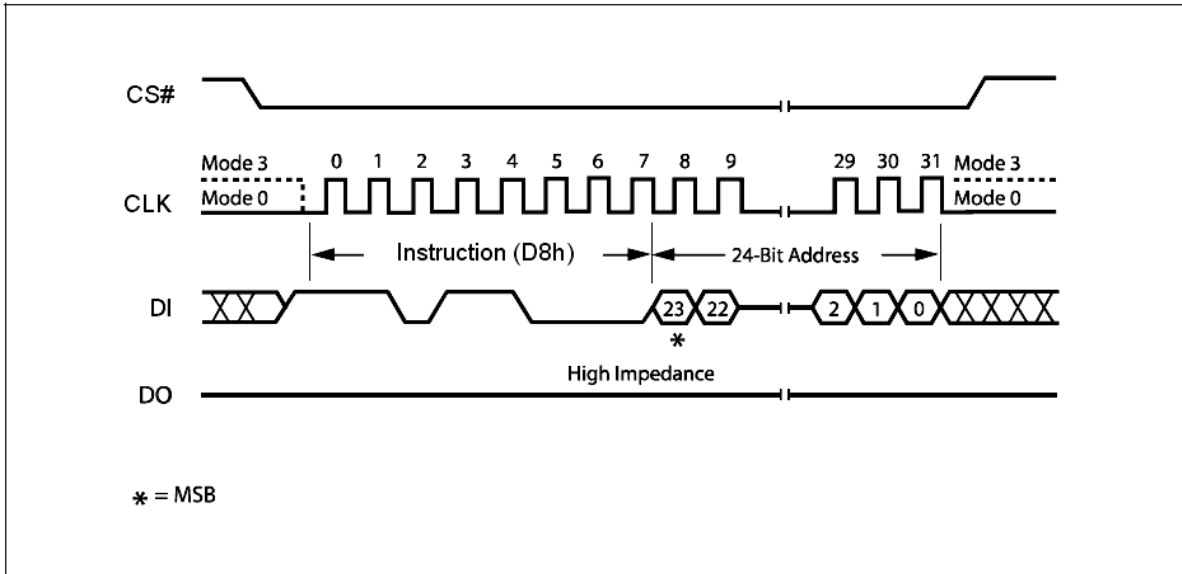

Figure 23. Block Erase Instruction Sequence Diagram
The instruction sequence is shown in Figure 23. Chip Select (CS#) must be driven High after the eighth bit of the last address byte has been latched in, otherwise the Block Erase (BE) instruction is not executed. As soon as Chip Select (CS#) is driven High, the self-timed Block Erase cycle (whose duration is t_{BE}) is initiated. While the Block Erase cycle is in progress, the Status Register may be read to check the value of the Write In Progress (WIP) bit. The Write In Progress (WIP) bit is 1 during the self-timed Block Erase cycle, and is 0 when it is completed. At some unspecified time before the cycle is completed, the Write Enable Latch (WEL) bit is reset.